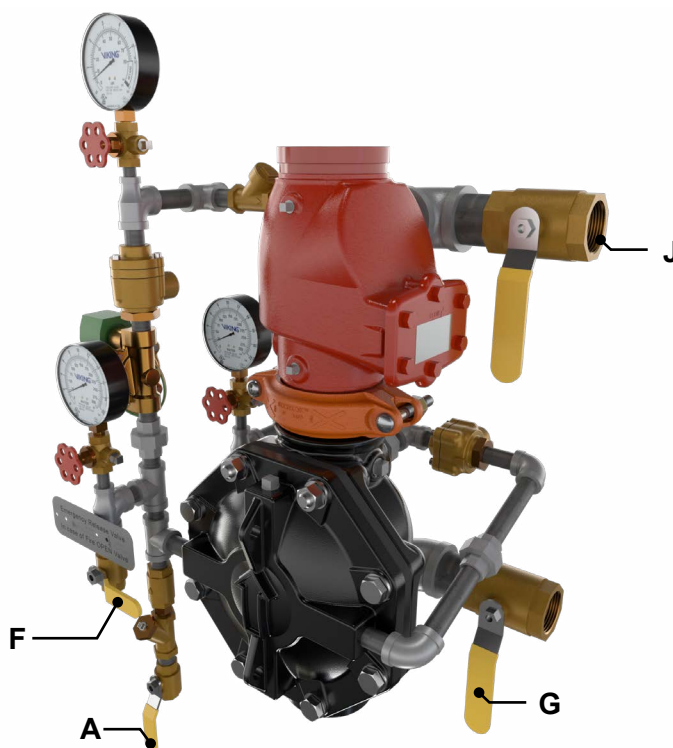

Figure 7: Placing the System in Service
#### To take system out of service (Refer to Figure 7):
- Verify that the main water supply control valve is open and that all other valves are in their normal operating position and appropriately secured. (refer to Figure 7)